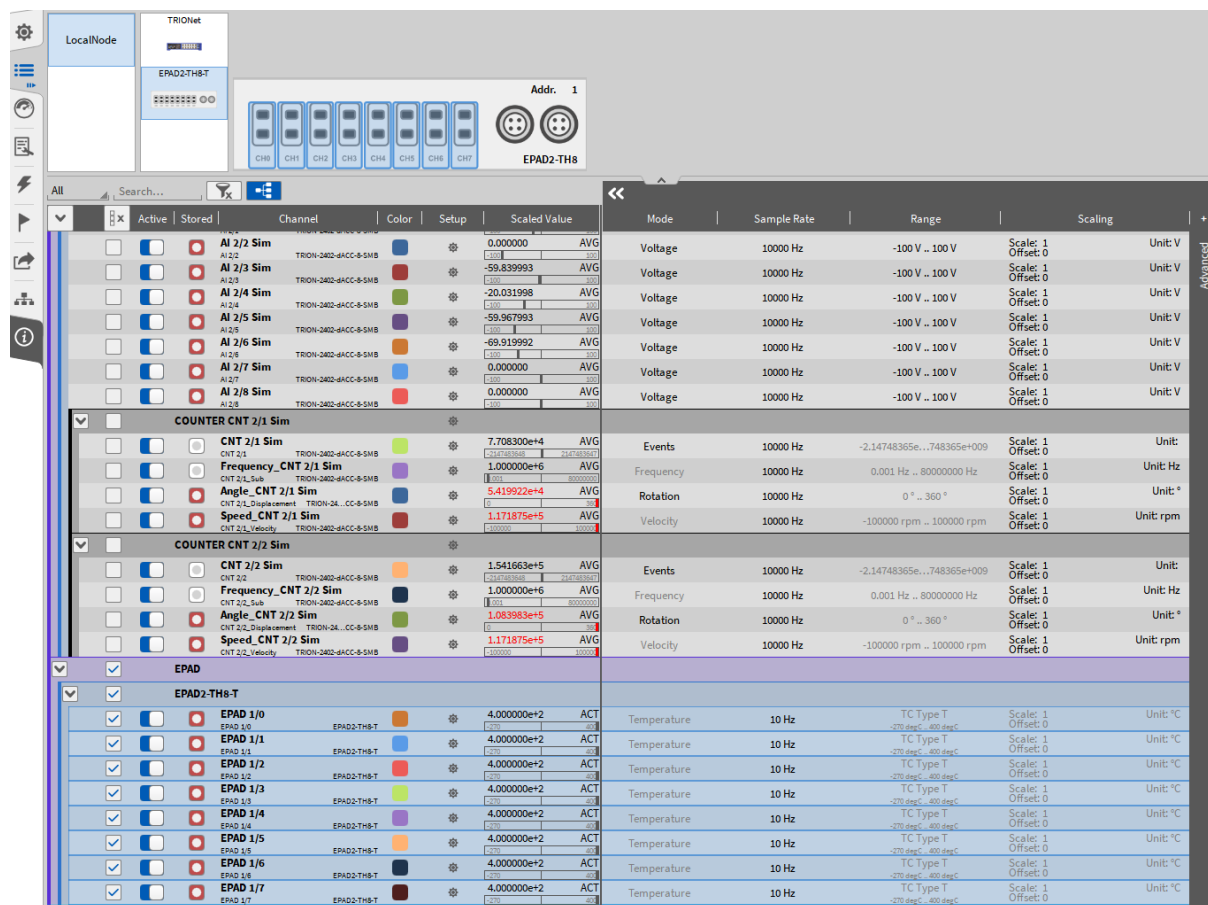

Fig. 4.30: EPAD channel list
- The EPAD2 module(s) are now visible in the system overview at the top of the Channel List (①) and are available in an own EPAD channel section in the Channel List (②) (see Fig. 4.30)